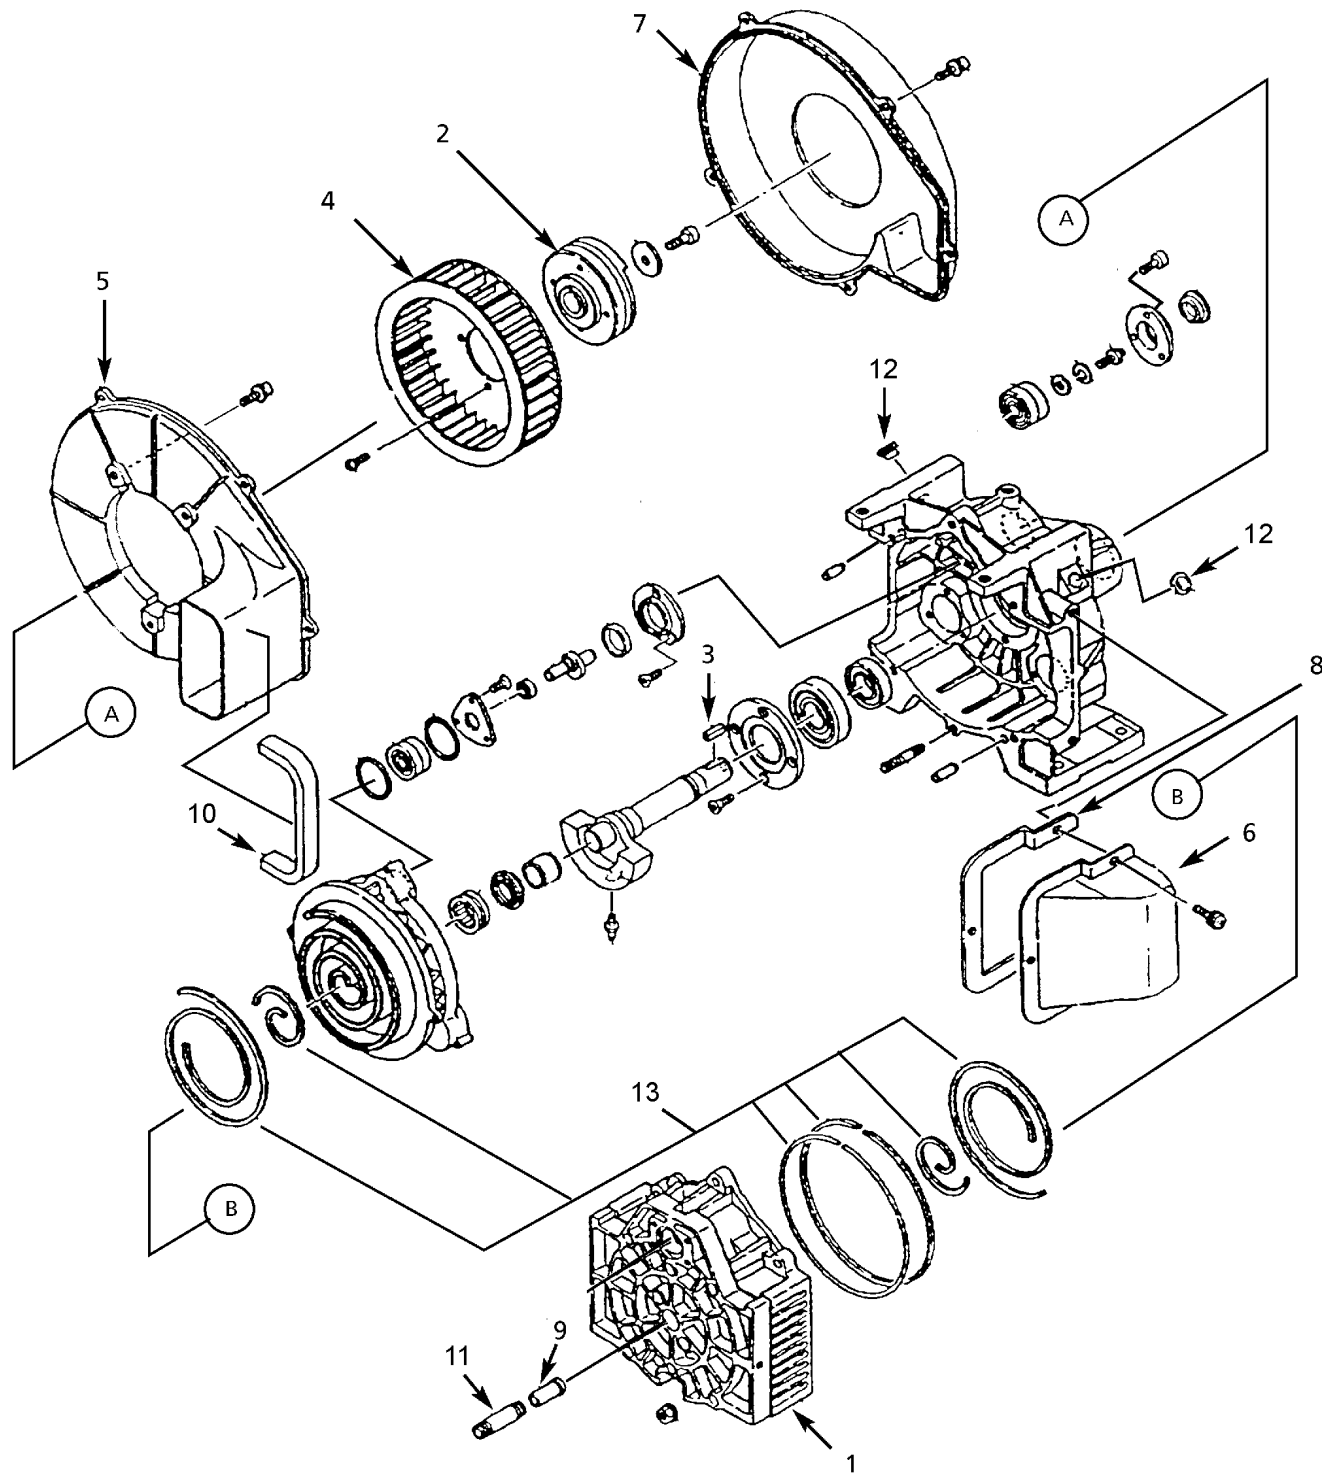

Figure 12. Scroll Compressor Parts.
Table 2 and Figure 12 for the parts list and illustration of the scroll compressor assembly.
Table 2. Parts List For Figure 12.
- a. Remove the fan cover (Figure 12, item 7).
- b. Remove the air end pulley and centrifugal fan using a gear puller (Figure 12, items 2 and 4).
- c. Remove the entrance fan duct (Figure 12, item 5).
- g. Install the fan entrance duct (Figure 12, item 5).
- h. Install the air end pulley and centrifugal fan (Figure 12, items 2 and 4).
- i. Install the fan cover (Figure 12, item 7).